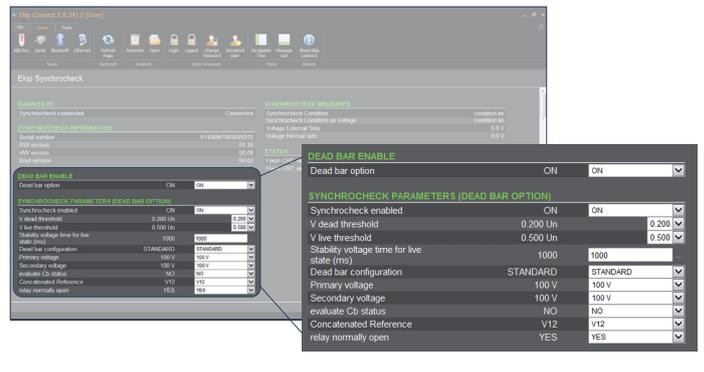

Figure 15 - Ekip Connect view with Dead Bar Enable ON
7. Once you've selected Ekip Synchrocheck in the Navigation Tree, the configuration parameters associated with the Ekip Synchrocheck function will be displayed in the section to the right of the Navigation Tree. The values to the left of the dropdowns display the current value at which each parameter is currently set. The configuration parameters displayed will change based on the status of the Dead Bar Enable selection (i.e. Dead Bar Enable = ON/OFF will determine if all delta settings are available for adjustments). Reference figures 15 & 16 for a view of the configuration parameters.